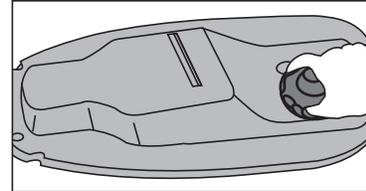

Fig. 19
7.1 The fuel tank is located under the seat (Fig. 19) and is accessible only when the seat is unlocked and lifted. For filling in petrol unscrew the cap and close it after refuelling.